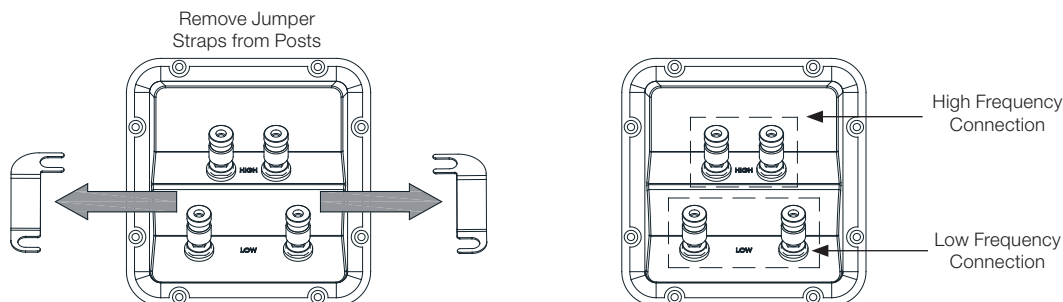

Figure 9
3. Connect "HF" labeled pair to the speaker's "HF" input, and the "LF" labeled pair to the "LF" input. (Figure 9)
4. Before installing the speaker that will be bi-wired or bi-amplified, remove the two gold-plated jumper straps on the terminal cup by loosening the terminals. Store the straps away safely for future use. Be sure to tighten the terminals on the LF and HF wires. (Figure 9)